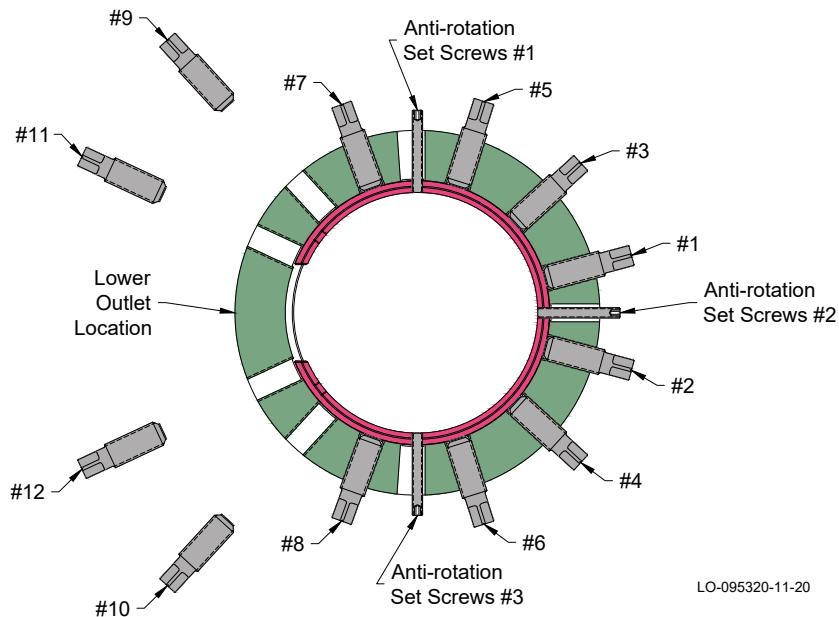

Figure 106: Casing Head Housing Tie-down Screw Pattern
- tie-down screws #1-8 are retracted from the bore as indicated in Figure 105; tie-down screws #9-12 are removed from the body and set aside as indicated in Figure 106